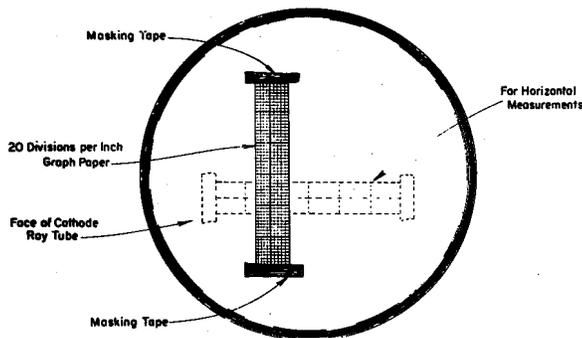

Fig. 1 - Method of Attaching Scale to Cathode Ray Tube
- (2) Remove the protective front window of the oscilloscope by loosening the four Cam-lock fasteners holding it to the oscilloscope.
- (3) Remove the scale from the face of the cathode ray tube.
- (4) Attach a piece of graph paper (20 divisions per inch) approximately 3 inches (60 divisions) long and 1/2 inch wide to the face of the cathode ray tube vertically or horizontally as illustrated in Fig. 1.